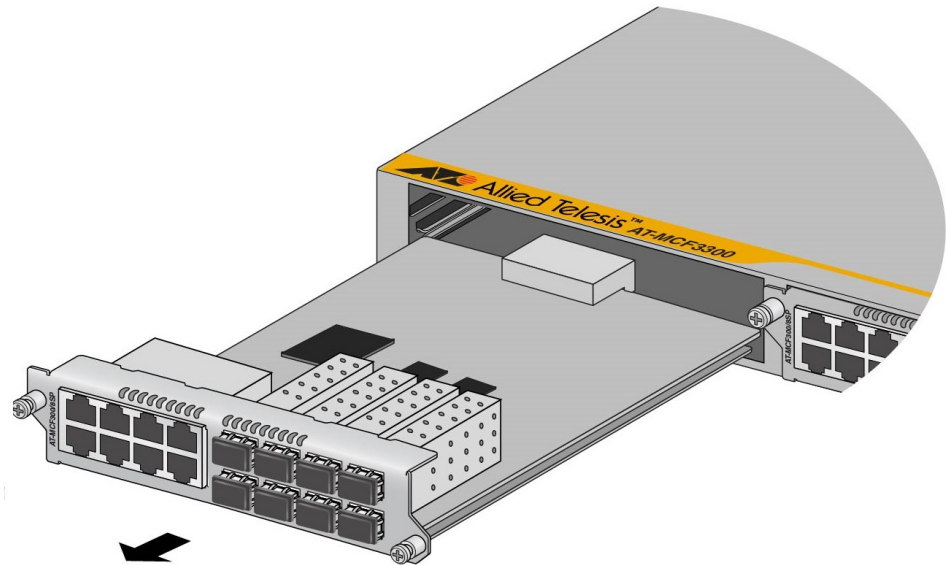

Figure 68. Sliding the Media Converter Module from the Chassis
5. Slide the module from the unit. Refer to Figure 68 on page 109.